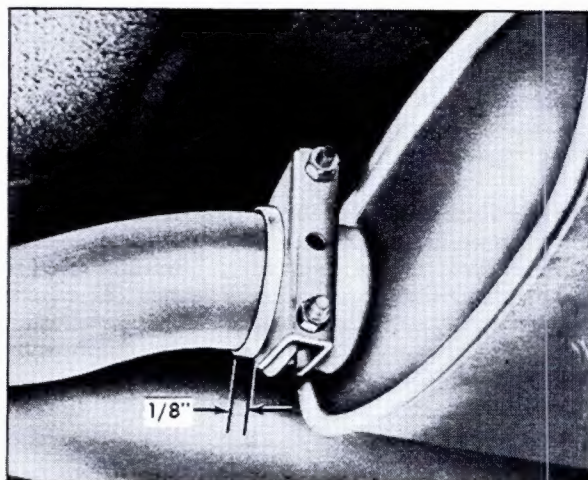

Fig. 8-4 Intermediate Pipe to Muffler Clamp
5. Insert intermediate pipe into muffler approximately 1-1/2 inches. Position clamp with saddle of clamp 1/8 inch in from edge of pipe toward left side of car, Fig. 8-4. Tighten nuts to 30 foot-pounds.
5. Secure muffler to intermediate pipe and resonator with clamps. Position clamp with saddle of clamp 1/8 inch in from edge of pipe and toward left side of car, Fig. 8-4. Tighten nuts to 35 foot-pounds.
5. Position clamp between intermediate pipe and muffler so there is approximately 1/8 inch between edge of muffler inlet pipe and saddle of clamp, Fig. 8-4. Tighten clamp just enough to prevent separation. Then check alignment of remainder of exhaust system.